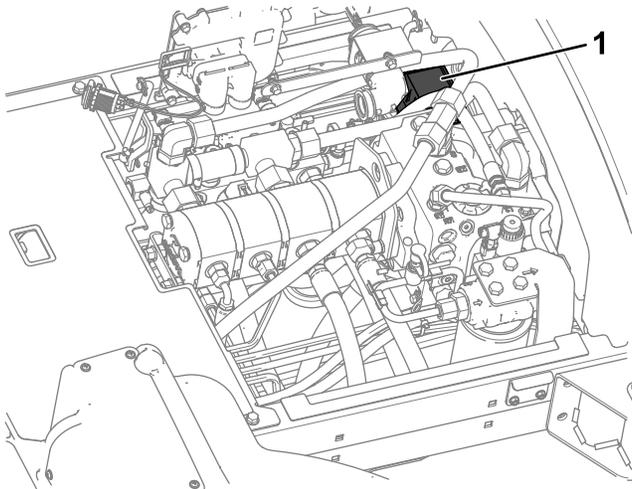

Figure 135
3. Replace the open fuse (Figure 135) with the same fuse type and amperage rating.